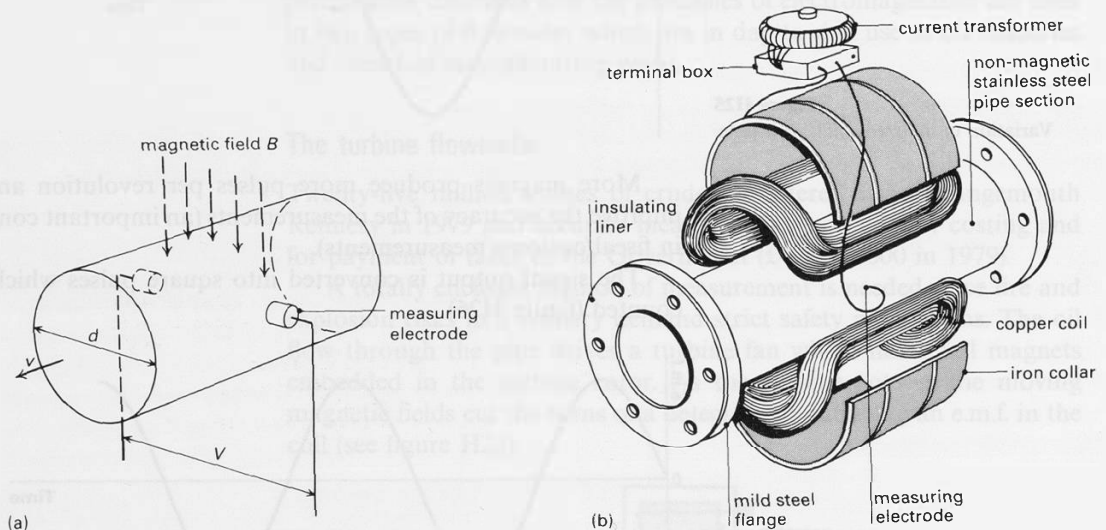

Figure H28
The magnetic field is provided by field coils which operate using stepped-down mains a.c. The voltage V is thus alternating. The field coils are not simple coils as they are designed to fit the cylindrical pipe as shown in figure H28. (They are similar in shape to the coils controlling the electron beam in a household television tube.) The effectiveness of the field is enhanced by the use of an iron collar as shown in figure H28(b).
- c** Explain why the field coils are wound on iron (figures H28(b) and H29).